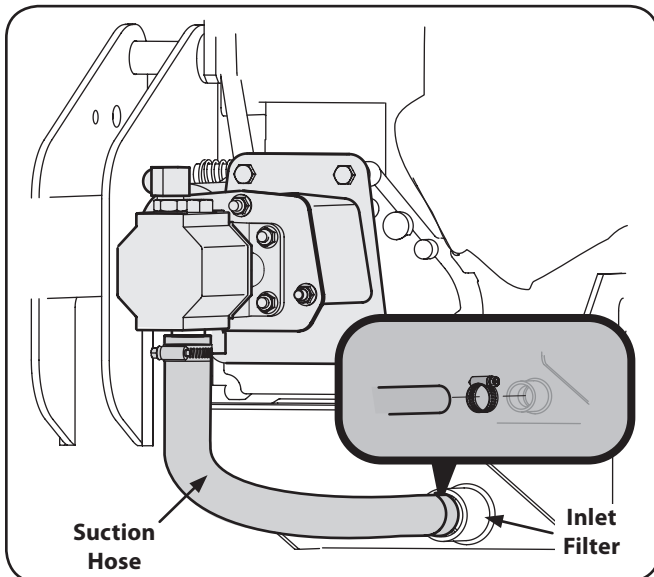
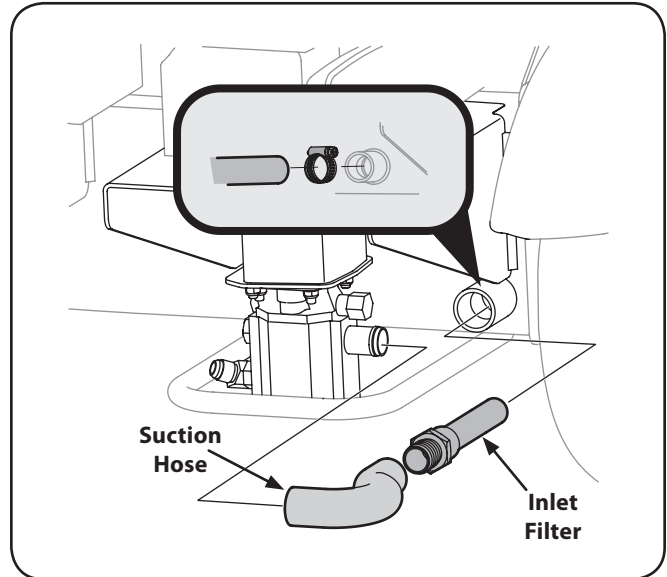

Figure 6-1
Figure 6-2
2. If your engine has a horizontal engine set-up shown in Figure 6-1, refer to Figure 6-1 for changing the hydraulic fluid.
3. If your engine has a vertical set-up shown in Figure 6-2, refer to Figure 6-2 for changing the hydraulic fluid.
4. Disconnect the suction hose from the bottom of the reservoir tank. See Figure 6-1 for horizontal engines or Figure 6-2 for vertical engines.